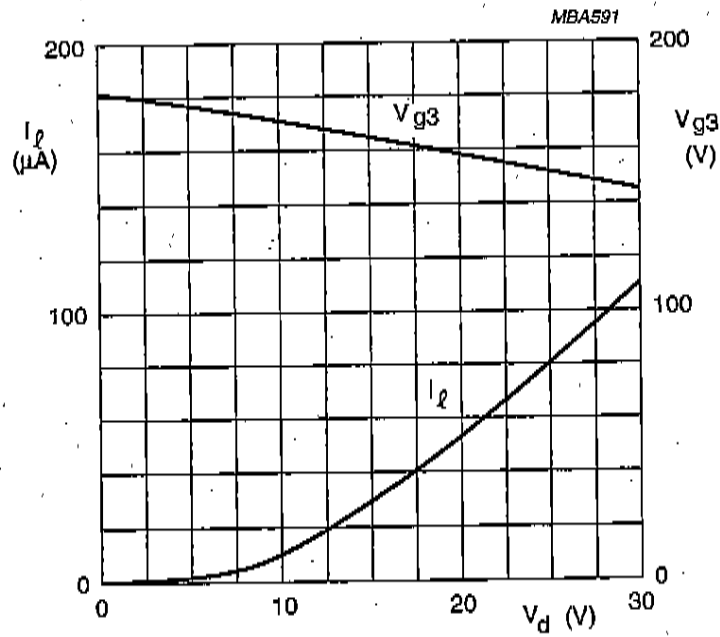

Fig.5 Typical screen current (I_s) and focus voltage (V_{g3}) curves as a function of grid drive voltage (V_d) at $V_{g2,g4,g5} = 2$ kV.
5. An actual focus range of 30 V should be provided on the front panel. V_{g_3} decreases with increasing grid drive (see also Fig.5).
6. Intensity control on the front panel should be limited to the maximum useful screen current (approx. 50 μ A; see also Fig.5). It should be adjusted either by the grid drive voltage (up to 22 V) or for maximum acceptable line width. The corresponding cathode current or I_{g_2, g_4} (up to 500 μ A) depends upon the cut-off voltage and therefore cannot be used for control settings.